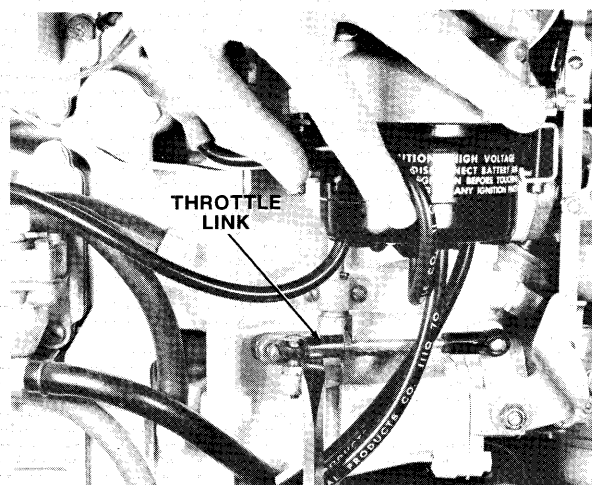

Figure 2—Disconnecting Throttle Link Assembly
- B. Disconnect throttle link assembly from ball joint on tower shaft as shown in figure 2.